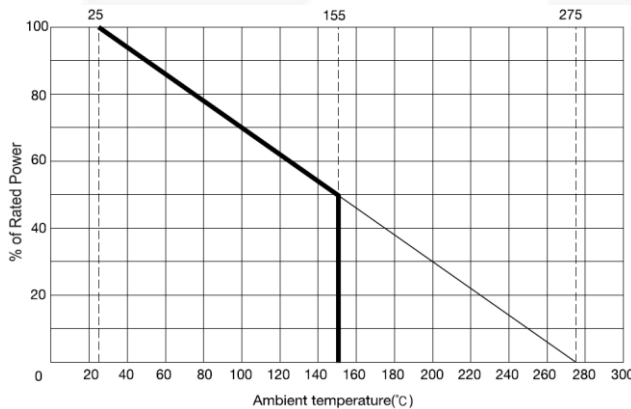

Figure 28. Derating Curve Example of Shunt Resistor (from RARA Elec.)
- Derating Ration of Shunt Resistor at $T_{SHUNT} = 100^\circ\text{C}$: 70% (refer to Figure 28)